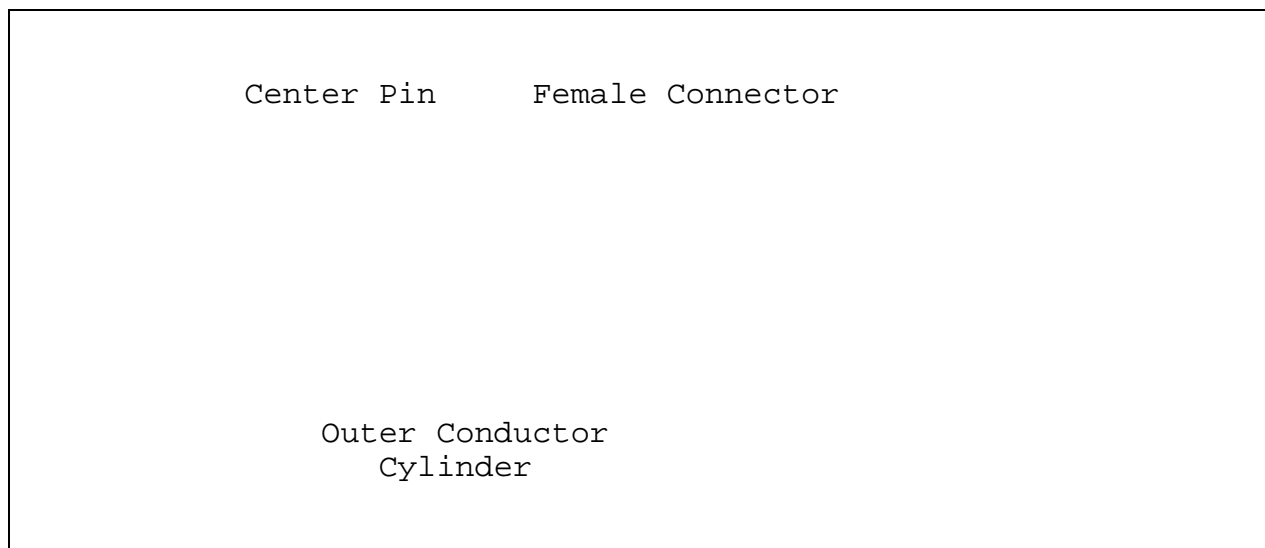

Figure 5: Delay Line external conductor
2. Insert the external conductor of the Delay Line in the cavity of the female connector, sliding it over the already positioned center pin (Figure 5).